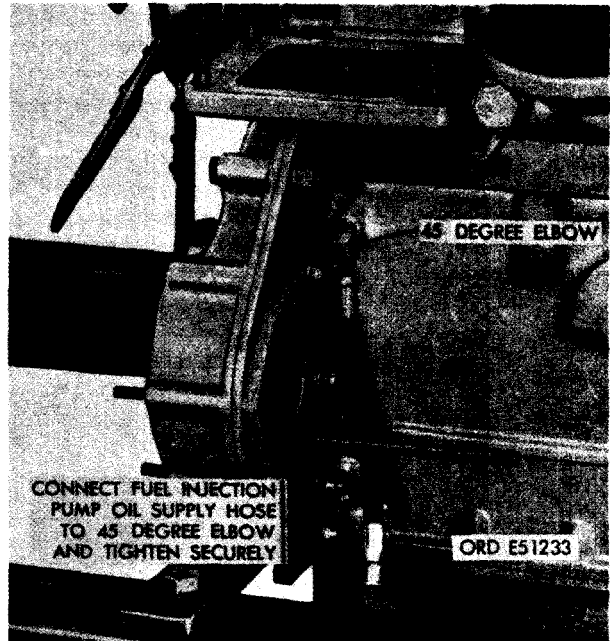

FIGURE 493. CONNECTING FUEL INJECTION PUMP OIL SUPPLY HOSE.
**b. Install Fuel Injection Pump Oil Supply Hose.** Refer to figure 493 and install fuel injection pump oil supply hose.